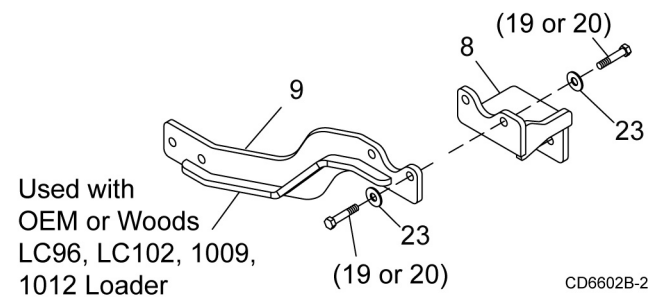

Figure 7. Front Mount Installation
3. Attach right front mount (9) to tractor using two cap screws (20) and hardened flat washers (23). If mid-mount is installed use cap screws (19). See Figure 7.